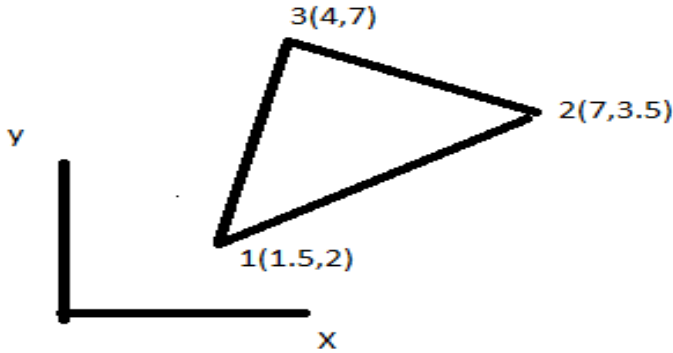

Figure.3
18. (a) Evaluate the shape function N_1, N_2, N_3 at the interior point 'P' for the triangular element shown in Figure.3 (16)